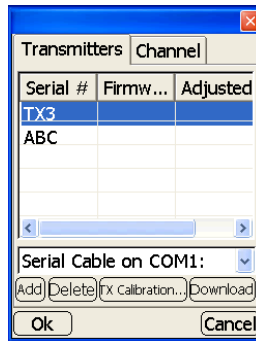

Figure 4-8. Load Transmitters into Pocket-3D
6. On the *Transmitters* tab, select the connection method used between the controller and transmitter. Then perform one of the following functions (Figure 4-8):